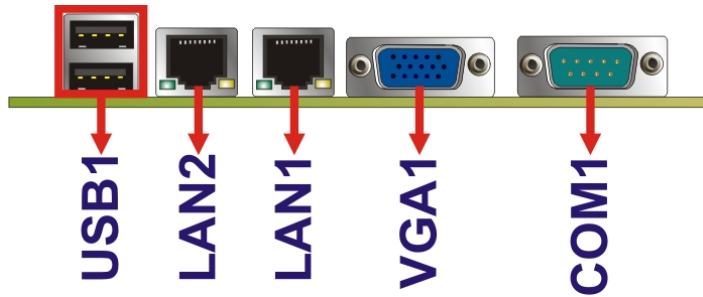

Figure 3-23: External Interface Connectors
Figure 3-23 shows the WAFER-PV-D5252/D4252/N4552 motherboard external interface connectors. The WAFER-PV-D5252/D4252/N4552 on-board external interface connectors are shown in Figure 3-23.
CN Location: See **Figure 3-23**
- CN Location:** See **Figure 3-23**